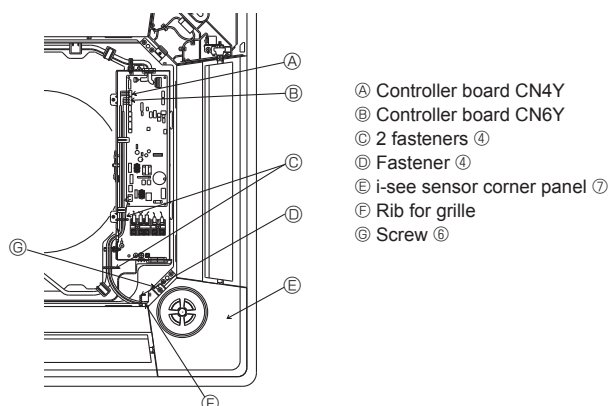

Fig. 5-10
④ Refrigerant piping of the main unit
⑤ Drain piping of the main unit
⑥ Initial position of the corner panel (logo attached)
⑦ Initial position of the levers on the intake grille
⑧ i-see sensor (PLP-6BAE panel)
5.6. Installation of i-see sensor corner panel (Fig. 5-10)